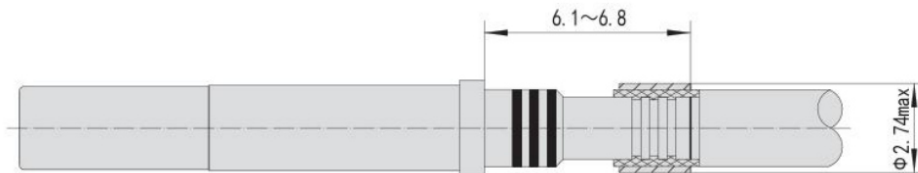

Figure 1.14
⑦As shown in Figure 1.14, place the shield crimp sleeve forward on the cable shield layer, with the position dimension ranging from 6.1 to 6.8. Cut off the excess shield layer that extends beyond the shield crimp sleeve. Use tool M22520/4-01 and locator M22520/4-02 to crimp the crimp sleeve: crimp once, then rotate the contact by 45 degrees and crimp again. After the second crimping, the diameter of the shield crimp sleeve must not exceed 2.74.